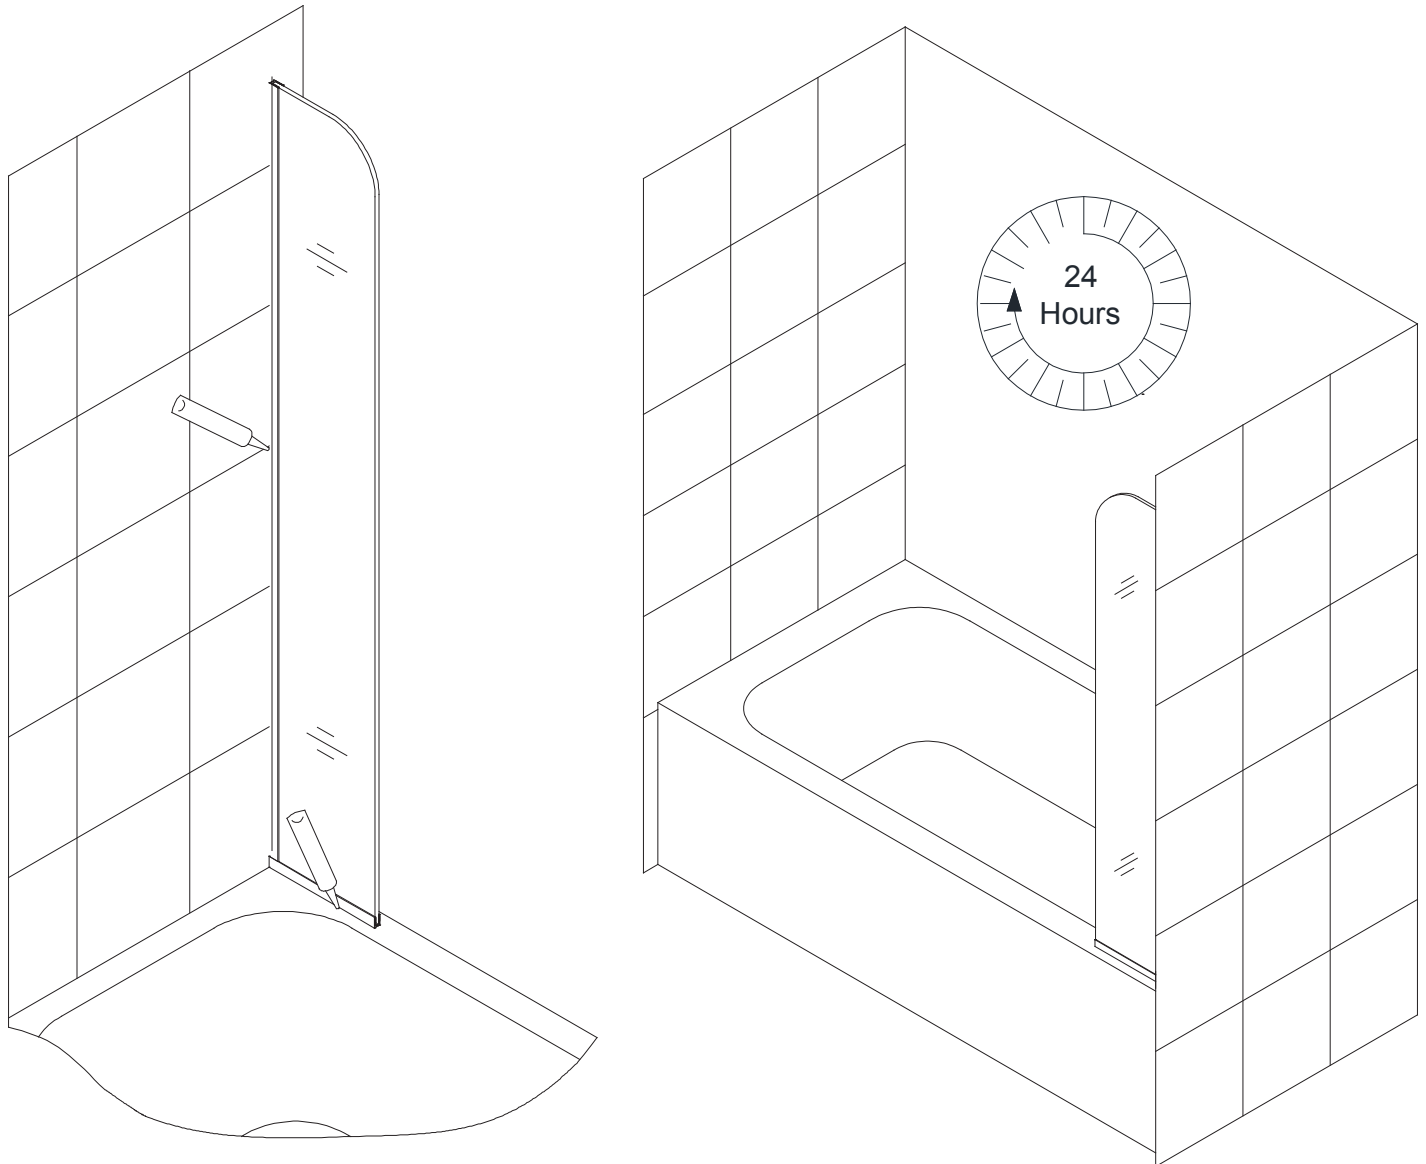

Fig 7
6. Apply a good quality mildew-resistant waterproof silicone along the connection of both U-Channels to the wall and tub surface from the inside of the shower. **(Fig 7)**